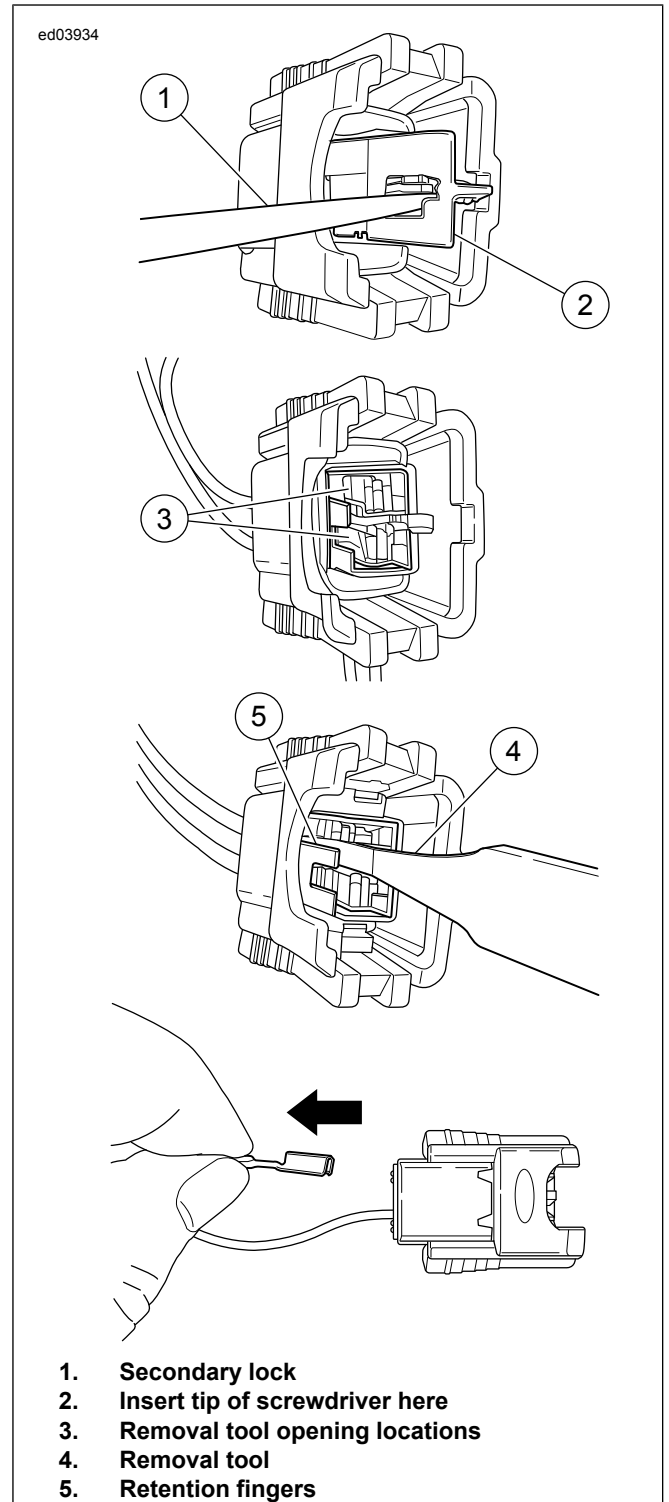

Figure B-28. Terminal Removal
- See Figure B-28. Insert the tip of a small screwdriver into the secondary lock and gently pry the secondary lock completely out of the housing.